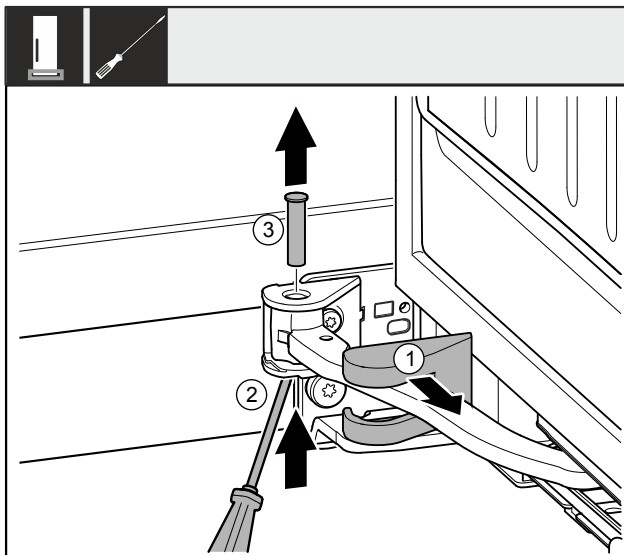

Fig. 9
- Remove the swap bearing block cover Fig. 9 (1) and slide along the joint.
- Use a screwdriver to lift the bolt Fig. 9 (2) from below.
- Pull out the bolt Fig. 9 (3) from above.